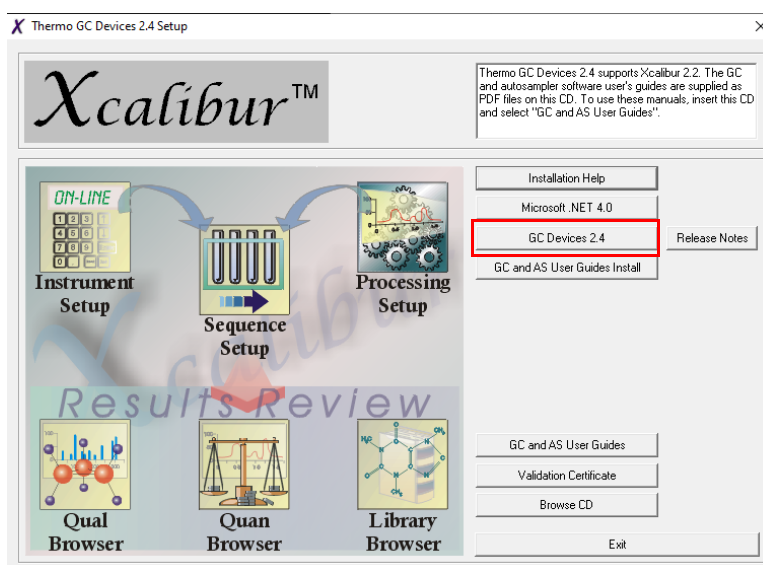

Figure 4-20. Thermo GC Devices 2.4 Setup dialog
8. In the **Thermo GC Devices 2.4 Setup** dialog, click **GC Devices 2.4**, see Figure 4-20.